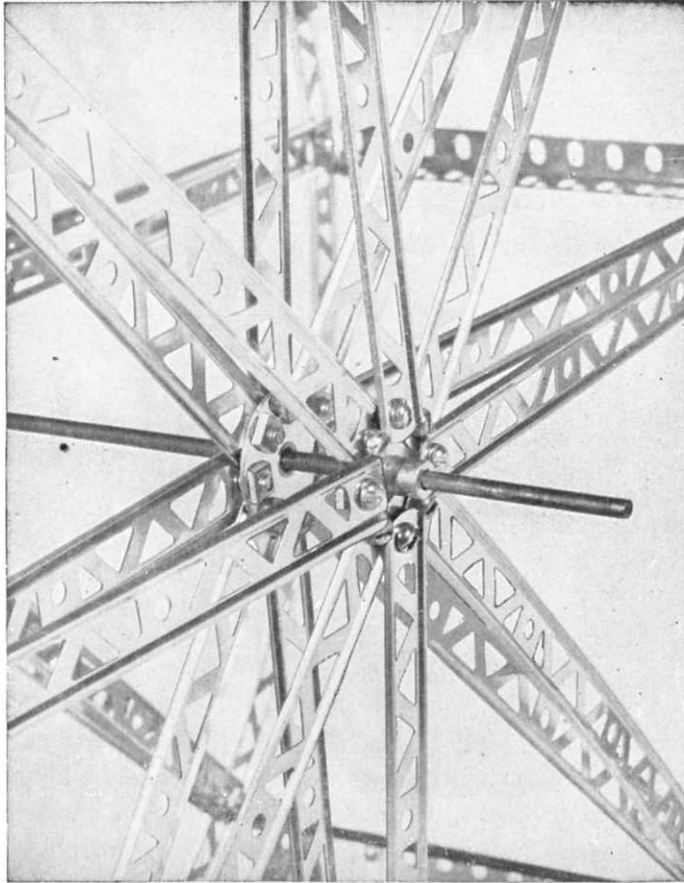

FIGURE 2
The first assemblies to build are the large wheels. Each of these are built of 13 (E) 5" curved girders on the rim and from eight equal places on the rim two (C) 10" girders are fastened, one on each side of the rim. These girders are brought to the center of wheel as shown in Figure 2 and fastened to (BT) pierced discs.